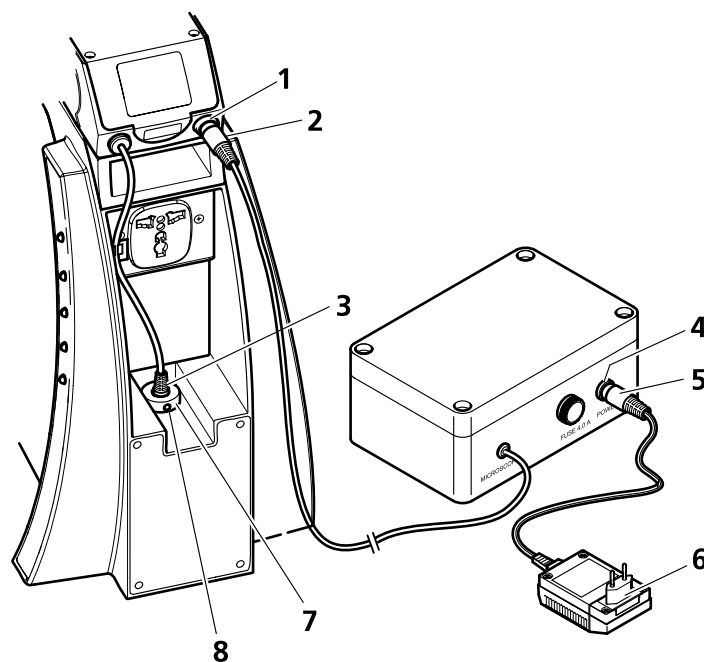

Fig. 13 Connecting the battery supply unit
- Pull the connector (Fig. 13/5) of the plug-in power unit (Fig. 13/6) out of the connection socket (Fig. 13/1) of the reflected-light illuminator and insert it into the connection socket of the battery supply unit (Fig. 13/4). The connector of the reflected-light illuminator (Fig. 13/3) is already connected to the connection socket of the microscope (Fig. 13/7).
- Insert the connector (Fig. 13/2) of the battery supply unit into the connection socket (Fig. 13/1) of the reflected-light illuminator.
- Insert the plug-in power unit (Fig. 13/6) into a power outlet.
- Loosen the set screw (Fig. 13/8) at the rear of the device and pull the connector (Fig. 13/5) of the plug-in power unit (Fig. 13/6) out of the connection socket (Fig. 13/7) of the microscope.
- Insert the connector of the plug-in power unit into the connection socket of the battery supply unit (Fig. 13/4).
- Insert the connector of the battery supply unit (Fig. 13/2) into the connection socket (Fig. 13/7) of the stand and tighten the set screw (Fig. 13/8).